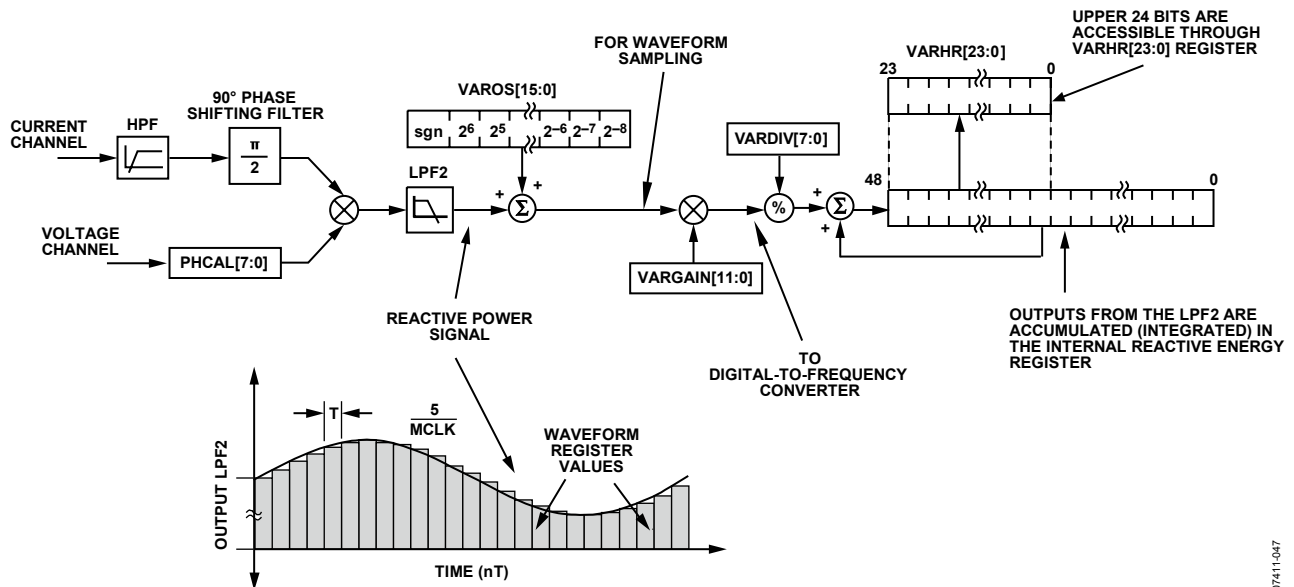

Figure 50. Reactive Energy Calculation
The instantaneous reactive power signal $q(t)$ is generated by multiplying the voltage and current channels. In this case, the phase of the current channel is shifted by 90°. The dc component of the instantaneous reactive power signal is then extracted by a low-pass filter to obtain the reactive power information (see Figure 50).
Figure 50 shows the signal processing chain for the ADE5569/ADE5169 reactive power calculation. As explained in the Reactive Power Calculation for the ADE5569/ADE5169 section, the reactive power is calculated by applying a low-pass filter to the instantaneous reactive power signal. Note that, when reading the waveform samples from the output of LPF2, the gain of the reactive energy can be adjusted by using the multiplier and by writing a twos complement, 12-bit word to the VAR gain register (VARGAIN[11:0]). Equation 23 shows how the gain adjustment is related to the contents of the watt gain register.
The ADE5569/ADE5169 also incorporate a reactive power offset register (VAROS[15:0]). This is a signed, twos complement, 16-bit register that can be used to remove offsets in the reactive power calculation (see Figure 50). An offset can exist in the reactive power calculation due to crosstalk between channels on the PCB or in the IC itself. The offset calibration allows the contents of the reactive power register to be maintained at 0 when no power is being consumed.
The discrete time sample period (T) for the accumulation register in the ADE5569/ADE5169 is 1.22 μs (5/MCLK). As well as calculating the energy, this integration removes any sinusoidal components that may be in the active power signal. Figure 50 shows this discrete time integration or accumulation. The reactive power signal in the waveform register is continuously added to the internal reactive energy register.
As shown in Figure 50, the reactive power signal is accumulated in an internal 49-bit signed register. The reactive power signal can be read from the waveform register by setting the WAVMODE register (0x0D) and setting the WFSM bit in the Interrupt Enable 3 SFR (MIRQENH, 0xDB). Like the current and voltage channel waveform sampling modes, the waveform data is available at sample rates of 25.6 kSPS, 12.8 kSPS, 6.4 kSPS, or 3.2 kSPS.